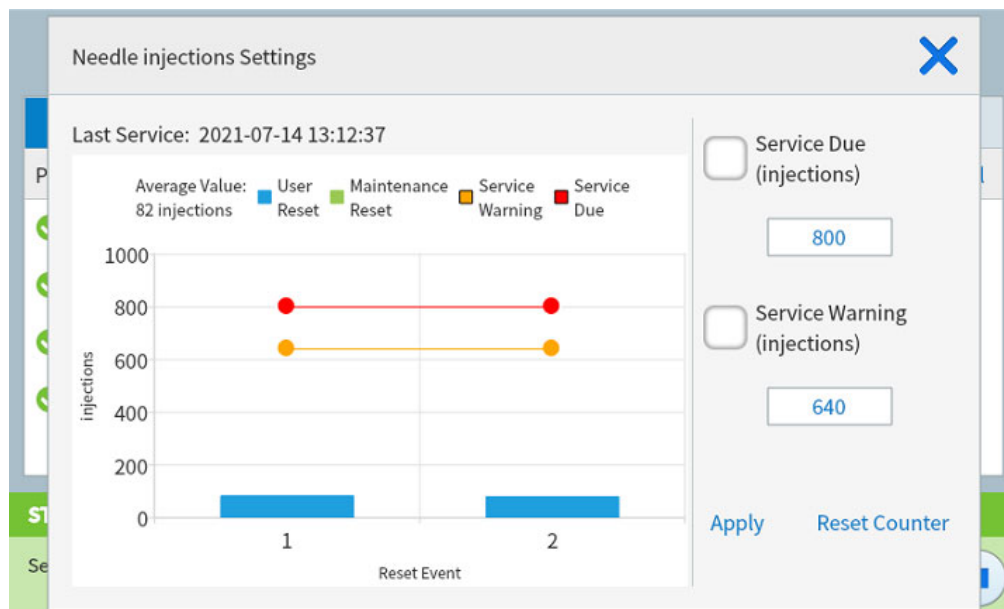

Figure 47. Settings dialog box
- 2 Select the **Details** listing for the counter you want to change. The dialog includes a trend plot for past reset events for this counter. See **Figure 47**.